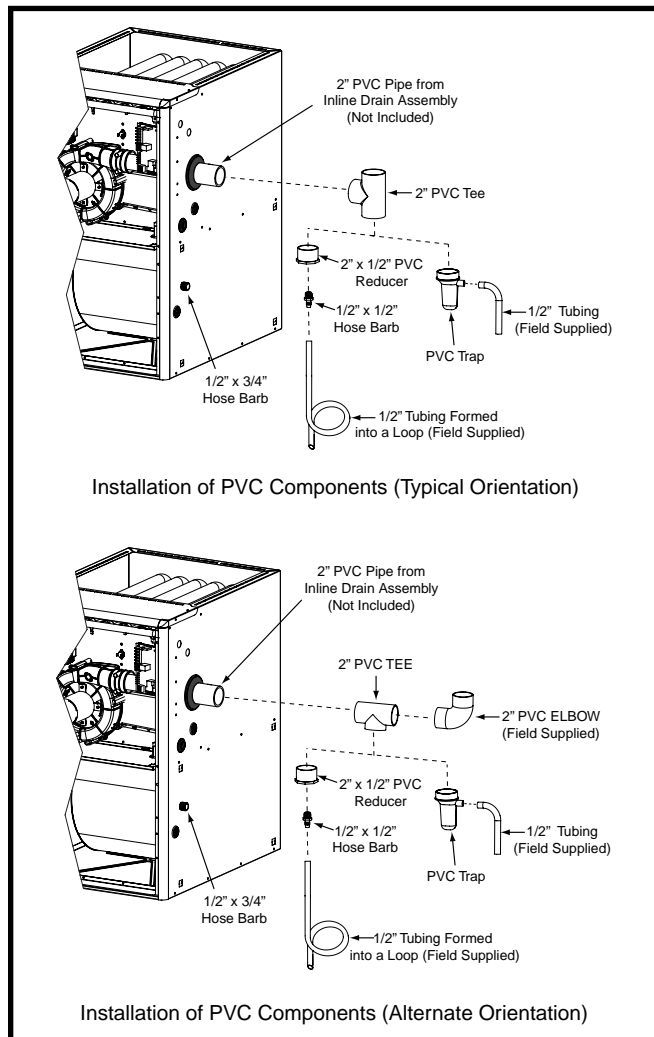

Figure 21. PVC Components
- The 2" PVC components shown in Figure 21 are not provided in the extra parts bag. However the PVC Trap (P/N 664659) can be purchased thru your local distributor.
The 2" PVC tee, reducer, PVC Trap and 1/2" X 1/2" hose barb are used when the inducer is rotated to vent out thru the left or right side of the furnace cabinet. See Figure 21. **NOTE:** If supplied with your furnace, the NORDYNE PVC trap (664659) may be used in place of the reducer and 1/2" X 1/2" hose barb
1. Install the PVC Tee vertically on the 2" vent pipe that is extending out the side of the cabinet. Permanently bond them together using appropriate primer and cement. Refer to the typical orientation shown in Figure 21.
1. Install the 2" PVC Tee horizontally on the 2" vent pipe that is extending out the side of the cabinet. Permanently bond them together using appropriate primer and cement. Refer to the alternate orientation shown in Figure 21.